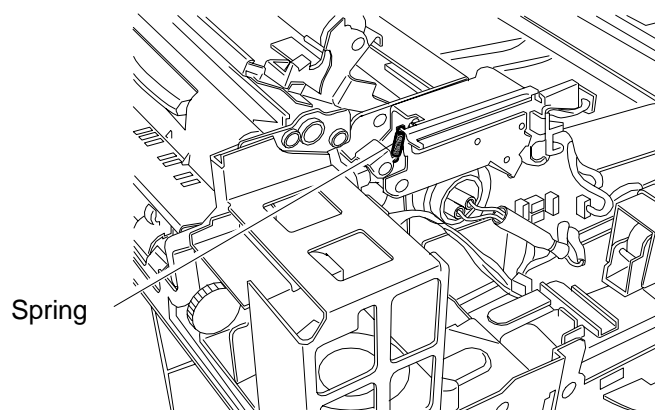

Fig. 3
3) Remove the spring. (Figure 3)